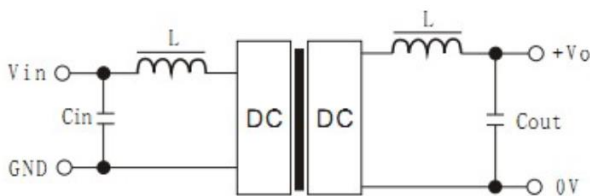

Figure 1
4. For applications with high ripple and noise requirements, an external LC filter circuit should be used (as shown in Figure 1). It is recommended to use ceramic capacitors or high-frequency low-impedance electrolytic capacitors for Cout. Using tantalum capacitors may cause module damage.